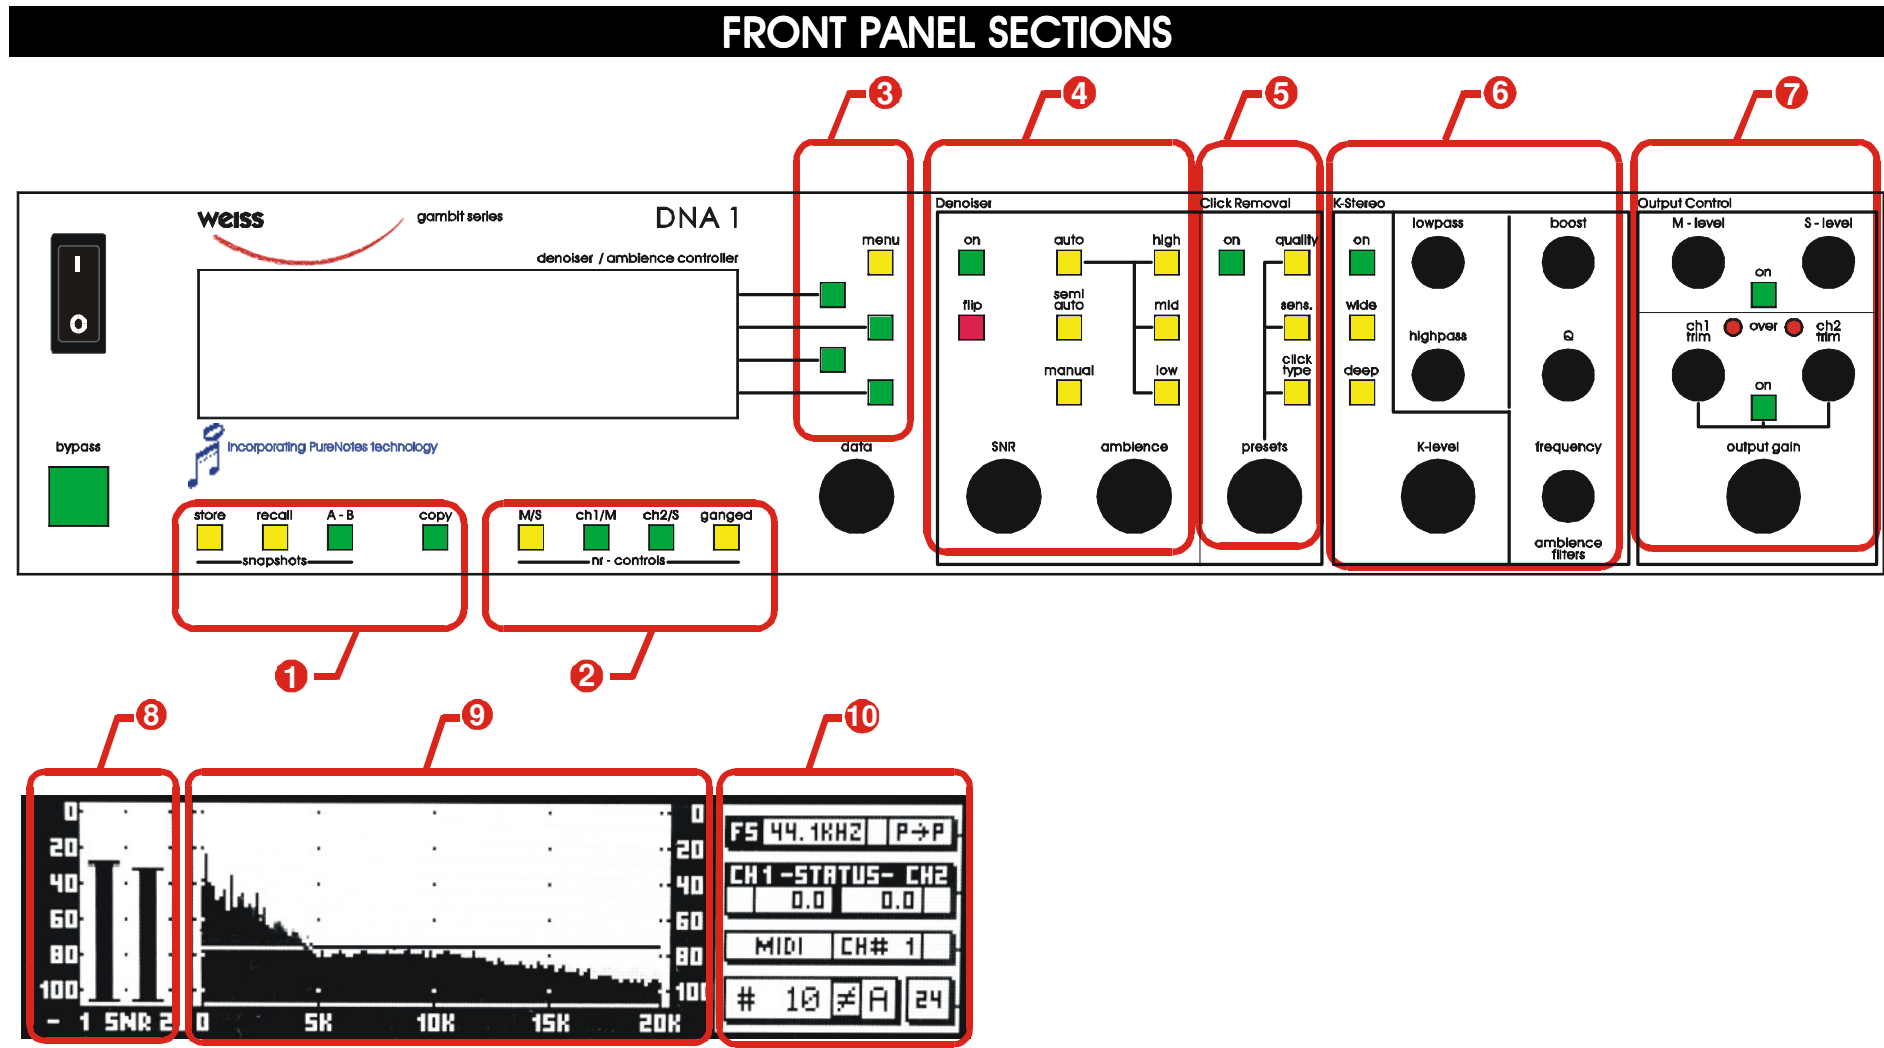

Fig. 1 Front Panel and Display Sections
The front panel of the DNA1 offers several control and display features. These can be grouped according to Fig. 1 Front Panel and Display Sections:
See Fig. 1 Front Panel and Display Sections, ①.